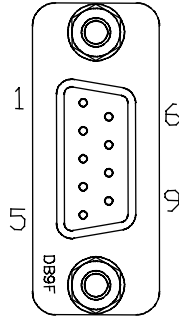

Figure 2-3. J7 RS485 Connector
- Connect RS-485 control cable to J7 RS-485 connector on rear of subrack (refer to figure 2-3 and table 2-3 for J7 RS-485 connector definition).
The J7 RS485 connector on the rear of the MCR20XX Series (NTL107AC) subrack is a 9-pin female D-sub connector that permits serial interface with the MCPA system. Refer to figure 2-3 and table 2-3 for connector definition.